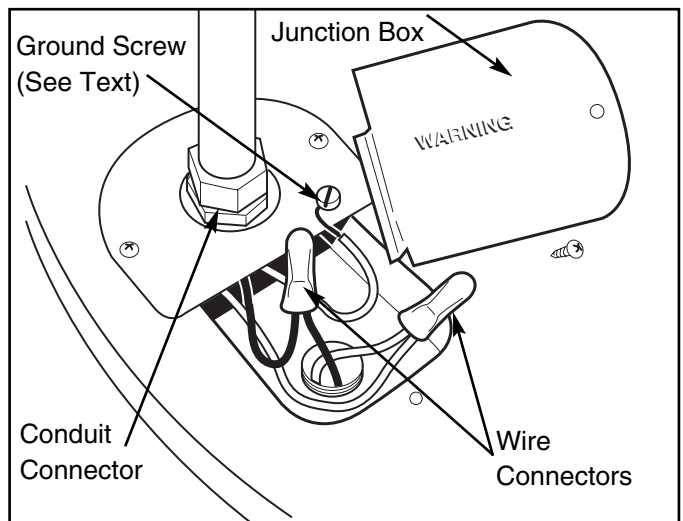

Figure 3.—Water Heater Junction Box.
electrical fitting is provided for field wiring connections. (Refer to Fig. 3)
- Non-metallic sheathed cable or metallic conduit or metallic sheathed cable not approved for use as a ground conductor shall include a separate conductor for grounding. It should be attached to the ground terminals of the water heater and the electrical distribution box. (Refer to Fig. 3)